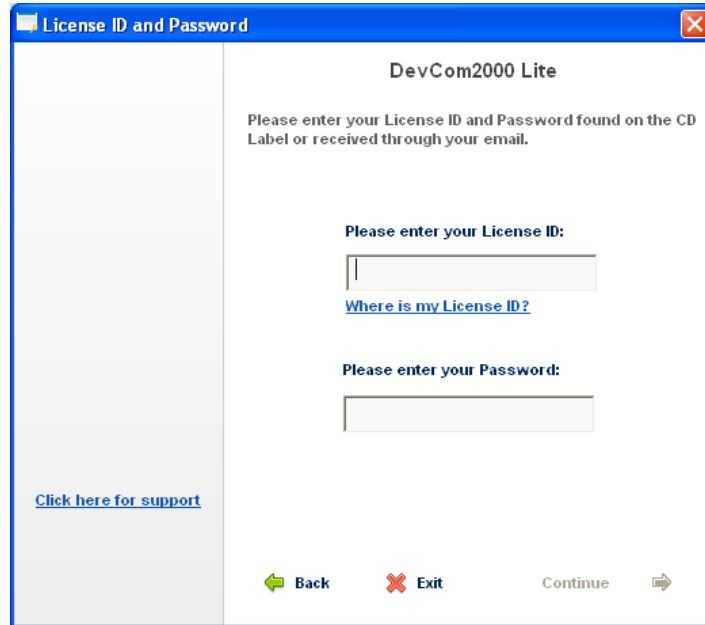

Figure 2 Activation Screen
- The license ID and Password will be included in the email with the link to download the software. Enter this information in the Activation Screen (See Figure 2) and click “Continue”.
Follow these steps in order to communicate with the 511/521/522 Pressure Transmitter from your PC (see figure 2 for a photo of the correct setup)